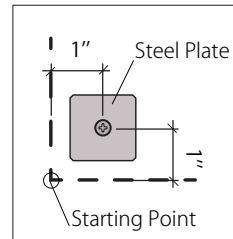

Fig. 1
2. Fix a steel plate 1" inside from the left panel line and bottom panel line with screws that is suitable for your wall type. (See Fig. 1)